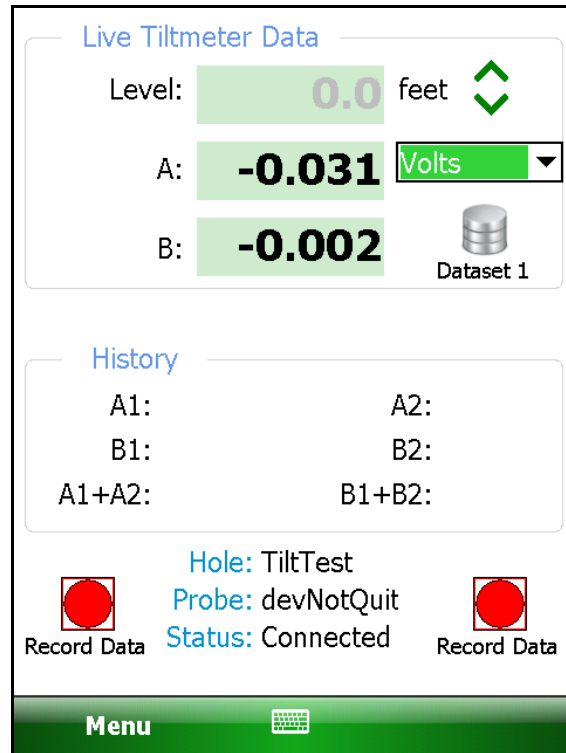

Figure 89 - Live Readings (Tiltmeter)
4. Tap the "Live Readings" menu item from the "Application" menu to start the reading process. If a valid Bluetooth connection can be established, a dual axis, tiltmeter specific, Live Readings screen will be displayed (see Figure 89).
Note the drop-down control in Figure 89, located just to the right of the "A" value display. This allows the "A" and "B" values to be displayed in 3 different units, described below: